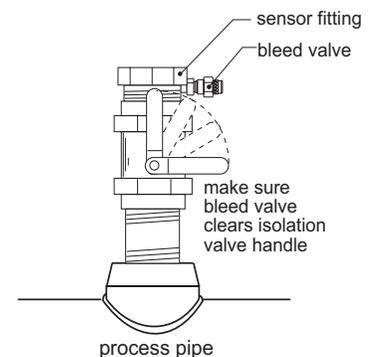

Fig. 3
D. Open the isolation valve and insert the drill through the valve and cut the sensor clearance hole. After the hole is cut, withdraw the drill from the isolation valve and close the valve. Remove the drilling machine per manufacturer's instructions. (Fig. 3)